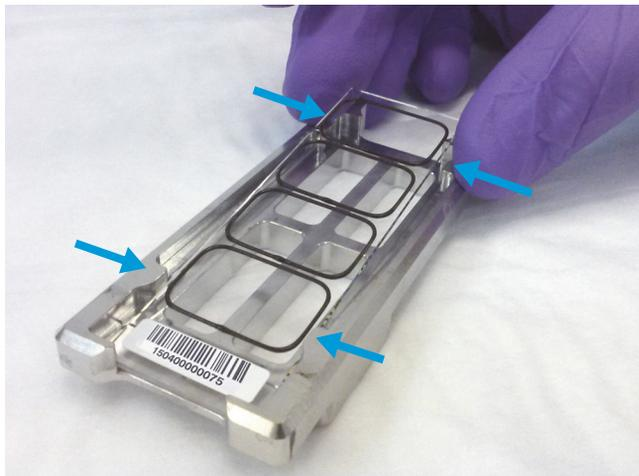

Figure 5. Chamber base, guide posts denoted with arrows
- 3 Position the gasket slide between the 4 chamber base guide posts (see **Figure 5**) with the barcode label resting over the base's rectangular barcode guide.